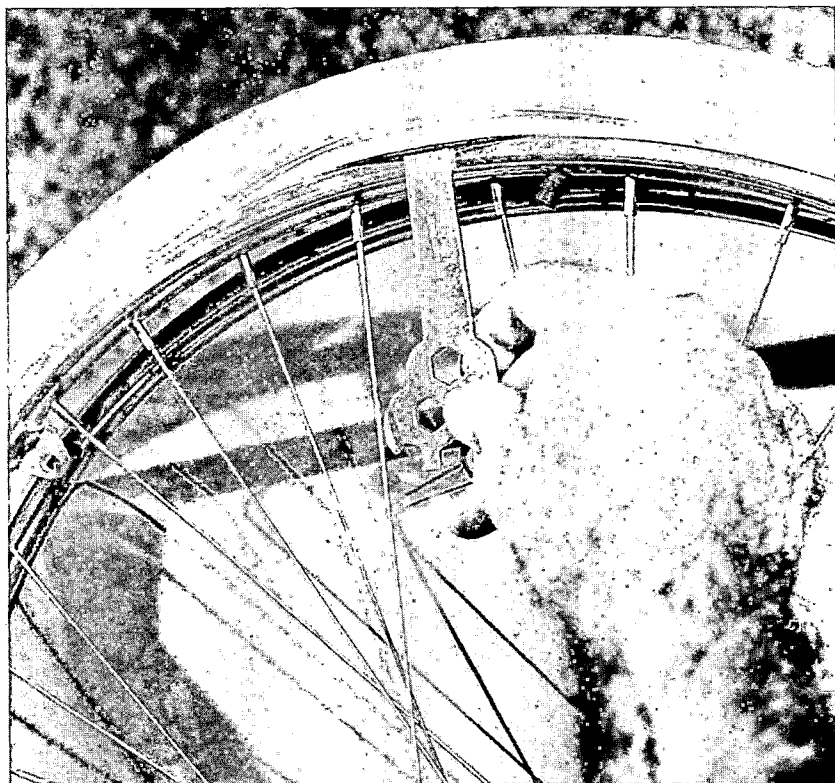

Figure 3A. Insert the tire tool under the bead.
4. Insert the first tire tool under the bead (see figure 3A).